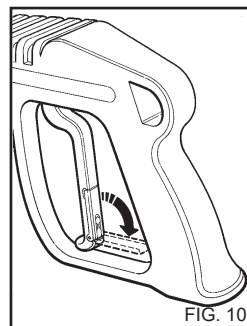

FIG. 10
- When the water cleaner is not used, close the safety device on the handle (fig. 10).